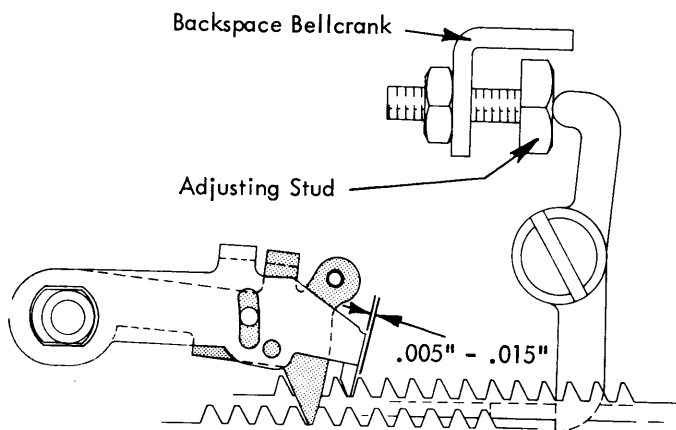

FIGURE 127. Backspace Rack Adjustment
3. **Backspace Rack** - With the backspace rack in the rest position, a clearance of .005" to .015" should exist between the working surfaces of the rack tooth and the backspace pawl (Fig. 127). Adjust the hexagon headed stud in the backspace bellcrank to obtain this condition.